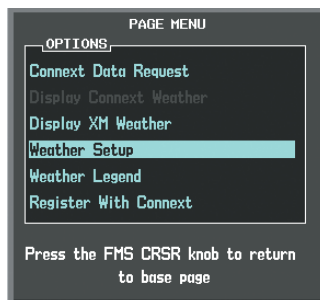

Figure 6-58 Weather Data Link (CNXT) Page Menu
- 3) With 'Weather Setup' highlighted, press the **ENT** Key (Figure 6-58).